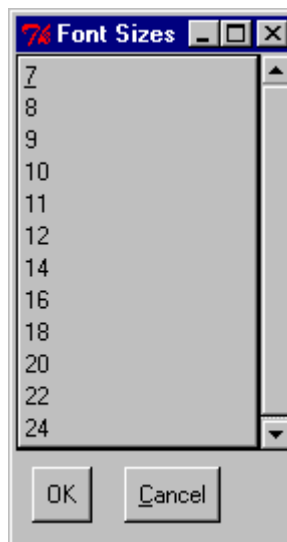

Figure 4-8. Font Sizes Selection Dialog Box
3. Click **S**ize... The **F**ont Sizes selection dialog box appears. Figure 4-8 shows the **F**ont Sizes selection dialog box.